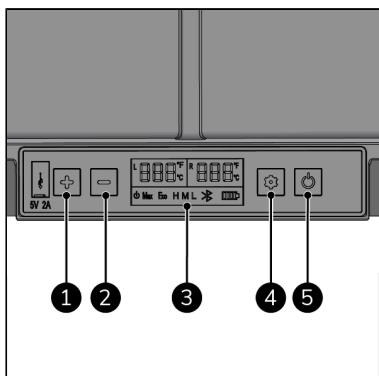

Figure 18.
1. Press the ON/OFF button (Figure 18, pos. 5) for 5 seconds.
1. Press the settings button (1x) (Figure 18, pos. 4) to change the temperature of the cooling compartment ('L') or press the settings button (2x) (Figure 18, pos. 4) to change the temperature of the freezing compartment ('R'): the display starts blinking.
2. Press the '+' or '-' button (Figure 18, pos. 1 and 2) to set the desired temperature.
1. Press the settings button (3x) (Figure 18, pos. 4) to select °F, °F starts blinking.
1. Press the settings button (4x) (Figure 18, pos. 4) to select °C, °C starts blinking.
1. Press the settings button (7x) (Figure 18, pos. 4) until H, M or L flashes.
1. Press the settings button (5x) (Figure 18, pos. 4) until MAX or ECO flashes.
2. Press the settings button (Figure 18, pos. 4) again to change the cooling capacity.
1. Switch off the device by pressing the ON/OFF button (Figure 18, pos. 5) for 5 seconds.